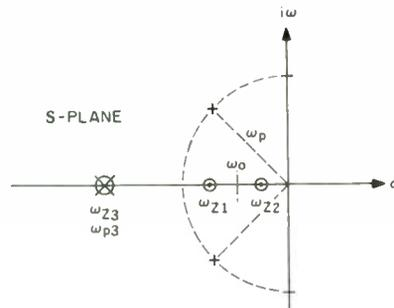

FIGURE 1: My new compensating network design and formulas.
The compensating network in Fig. 25, SB 4/80, p. 16, must be changed slightly to handle  $Q_s$  of less than 0.5. Figure 1 is a new set of formulas for the design and the analysis of the new network; it is the easy part of the design. The difficulty comes in deciding which value of  $Q$  to compensate for.
A look at the impedance plot of the Linn Sara in Fig. 1, (from *HiFi Choice Loudspeakers*) shows the resonance frequency to be 48Hz, which seems probable for one KEF B200 in an enclosure with twice the volume of the Sara.
**FIGURE 1: The impedance characteristics give an indication of amplifier loading for the Linn Sara. From *HiFi Choice Loudspeakers* (14 Rathbone Place, London W1P 1DE, England).**